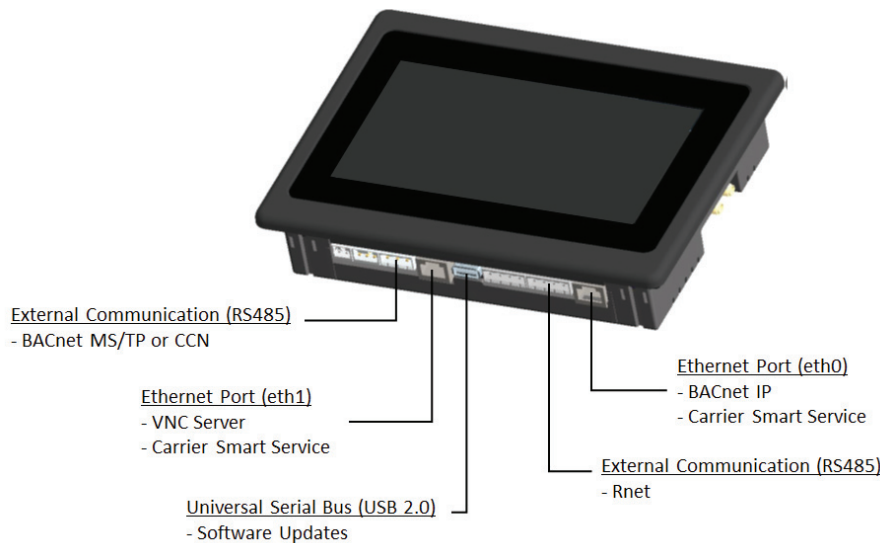

Fig. 47 — Carrier SmartVu™ Touchscreen Display Interface and Connections
50K units are standard with BACnet Inernet Protocol (IP) communication using Ethernet. The cabling for this is standard CAT 5 (minimum) cable with RJ45 connector. See Fig. 47 for Ethernet port locations.
The SmartVu touchscreen display is the primary method of interfacing with the controls for set up and equipment start-up. The touchscreen is a capacitive 7 in. LCD that can be activated with a finger, touch compatible gloves, or stylus. Refer to Fig. 47 for display layout and port locations.
The SmartVu controls can be accessed using a hardwired ethernet connection at ethernet port 0 (on the bottom right side of the touchscreen display) and a VNC Viewer, such as RealVNC. Refer to Fig. 47 (SmartVu touchscreen display) for ethernet port 0 port locations. See Table 16 for default IP addresses ethernet port 0.